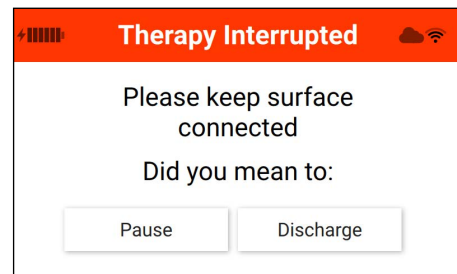

Figure 21. Keep Support Surface connected prompt screen
1. If the support surface is disconnected while running, a prompt will appear with a five (5) second auditory tone. Reconnect the support surface into the front of the controller or make a selection to dismiss the prompt. Do not use the button to insert the connector. Push until there is a click. (Fig. 21)
2. If the Keep Support Surface Connected Prompt (Fig. 21) is not addressed within five (5) minutes, an auditory alert will occur and the support surface disconnected alert screen will for repeat every hour that the alert is active. (Fig. 22)